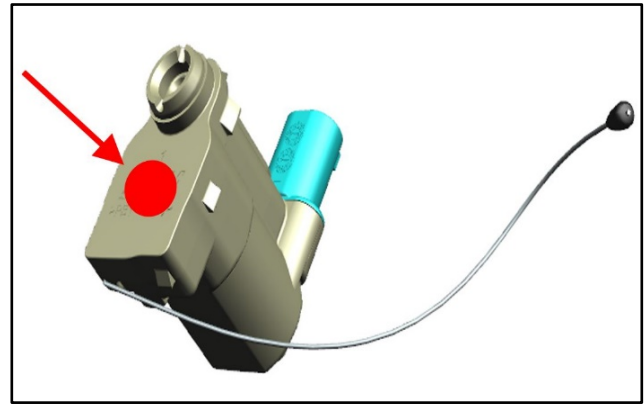

Figure 3
3. Apply Plexus MA300 adhesive in the location shown by the red dot (refer to Figure 3).